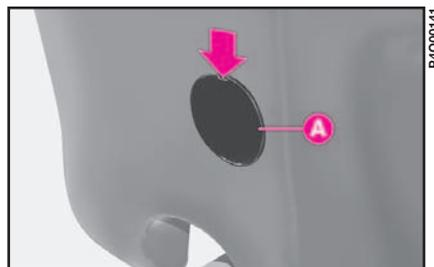
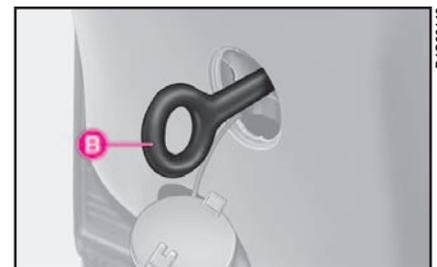

fig. 48
fig. 49
4) Remove the flap **A-fig. 48** on the rear bumper levering with a screwdriver in the point shown by the arrow and fasten the ring fully **B-fig. 49** on the threaded pin which appears when the cover is removed .